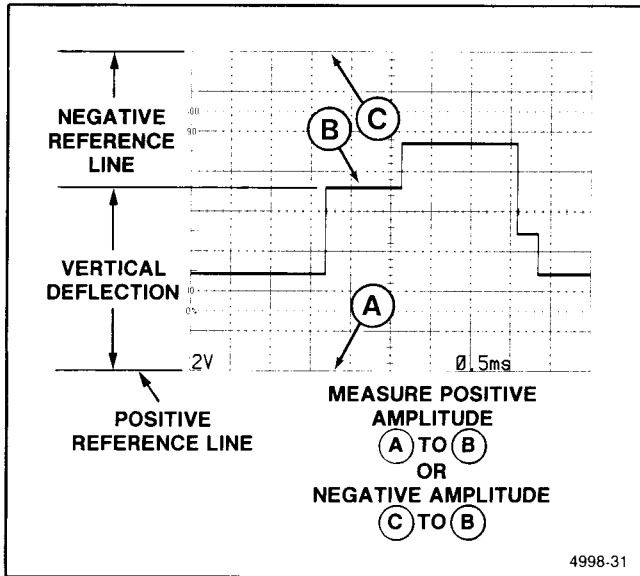

Figure 6-18. Ground referenced voltage measurement.
EXAMPLE: The vertical distance measured is 4.6 divisions (see Figure 6-18). The waveform is above the reference line, the VOLTS/DIV switch is set to 2 V, and a 10X scale-factor-switching probe is used.
4. Set the AC-GND-DC switch to DC. Measure the divisions of vertical deflection between the reference line and the desired point on the waveform (see Figure 6-18).